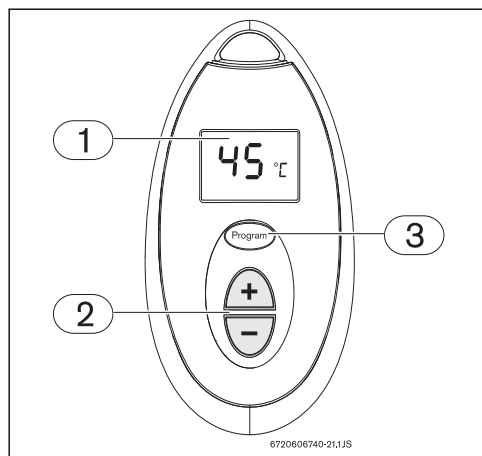

Fig. 14 Memorizing water temperature
- Press the buttons  or  on the remote control (Fig. 14 , [pos. 2]), until the required temperature appears on the remote control display (Fig. 14, [pos. 1]).
- You will now be able to memorize this temperature by pressing the “Program” button on the remote control (Fig. 14, [pos. 3]) for 3 seconds.